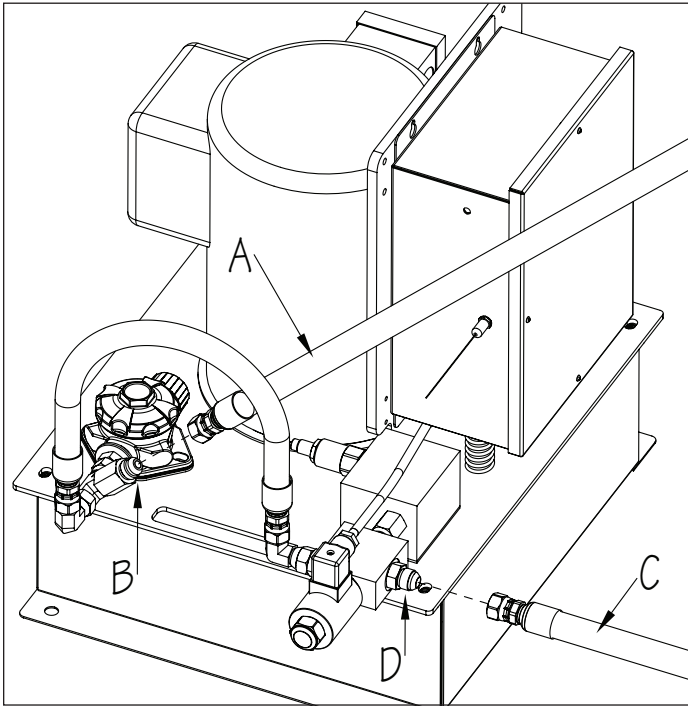

Fig. 22
Attaching the Hydraulic Run Hoses to the power unit is next. Remove the caps on the ports of the power unit. Attach the Low-Pressure Hose (A), hose with the red tape wrapped around the end, to the fitting attached to the Fill Cap (B). Attach the High Pressure-Hose (C) to the fitting on the Silver Manifold Block (D). Tighten the hoses firmly (Fig. 22).